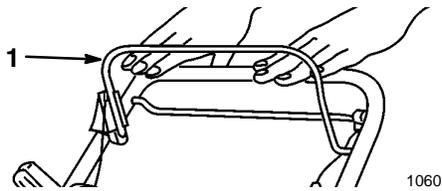

Figure 11
2. Release the blade control bail (Fig. 11). Both the engine and blade will stop. See your dealer immediately if they do not.